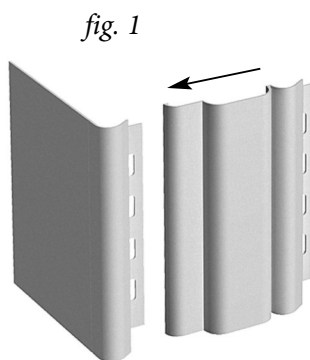

fig. 1
1) In order to give an aesthetically complete appearance of the window opening or doorway of your house you can choose any combination of spacer component (jamb) with one of weather strips (Fig. 1).